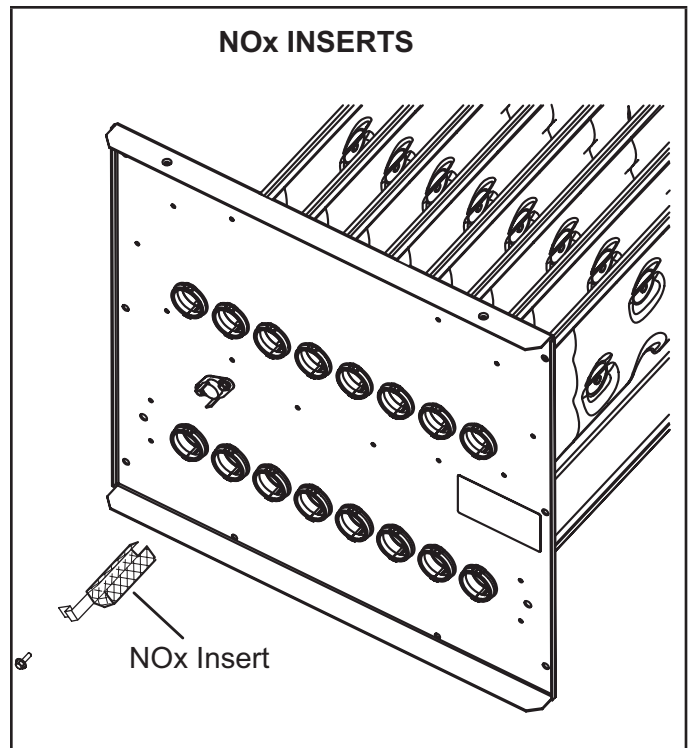

FIGURE 27
- 7 - **NOx units only** - Remove screw securing NOx insert. Remove NOx insert. See FIGURE 27.